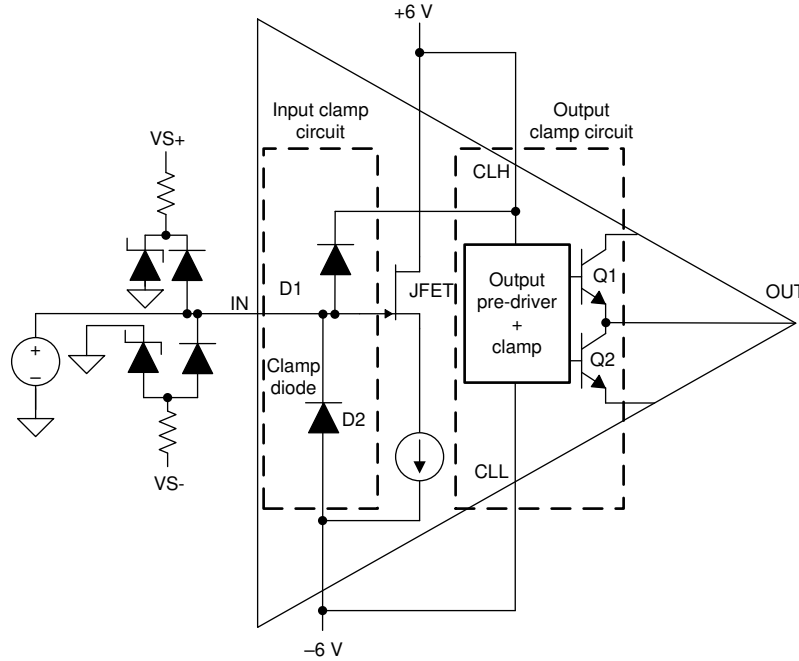

Figure 8-3. External Input Clamp Circuit
- Figure 8-3 shows how the external clamping diodes can be used in cases where the 100 mA current rating of D1 and D2 is insufficient. When using external clamping, disable the internal protection of the BUF802 by connecting CLH and CLL to V_{S+} and V_{S-} .
- As shown in Figure 8-3, the internal clamps can be disabled by connecting CLH and CLL to V_{S+} and V_{S-} respectively. When the clamps are disabled, the maximum output swing is limited by the output swing specification described in Section 6.5. The response time and accuracy of the output clamp is shown in Section 6.7.